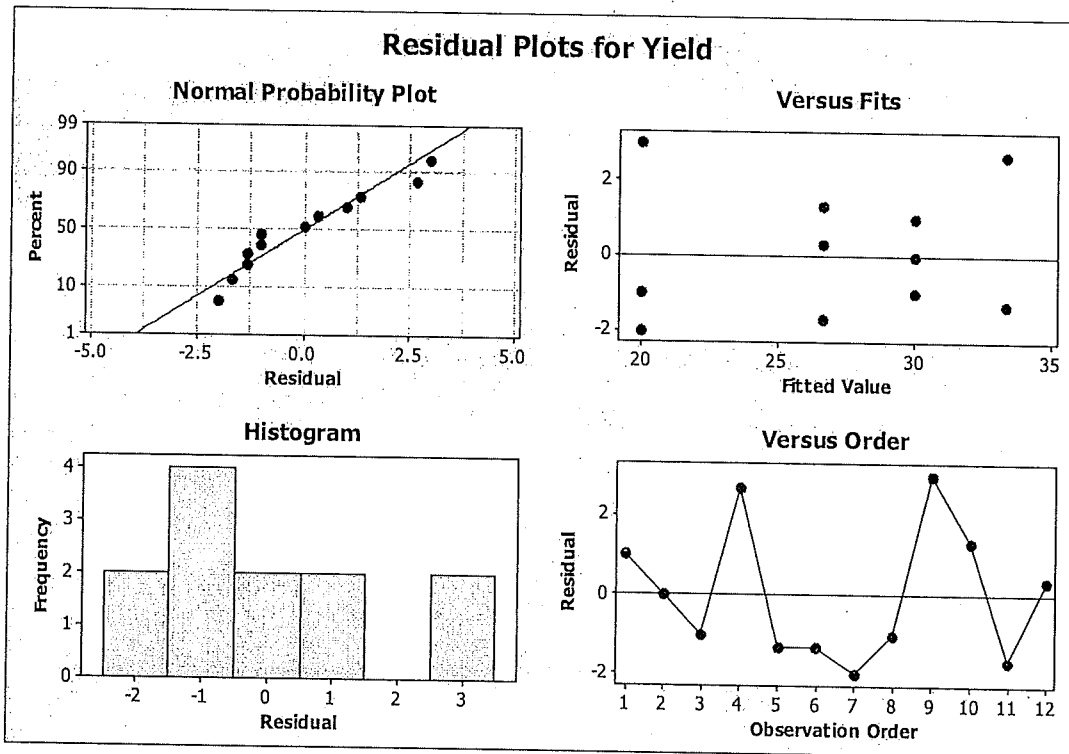

Figure 8 : Residual Plots For Yield
- (iii) Use the residual plots for Yield in Figure 8 and provide your analysis of model for each graphs.